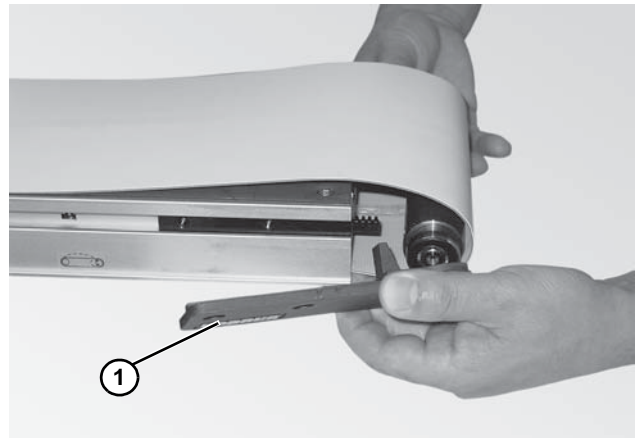

Figure 41
2. Place the head plate (**Figure 41, item 1**) and attach the head plate to the conveyor frame with the two (2) screws removed. Tighten screws 60 in-lb (7 Nm).